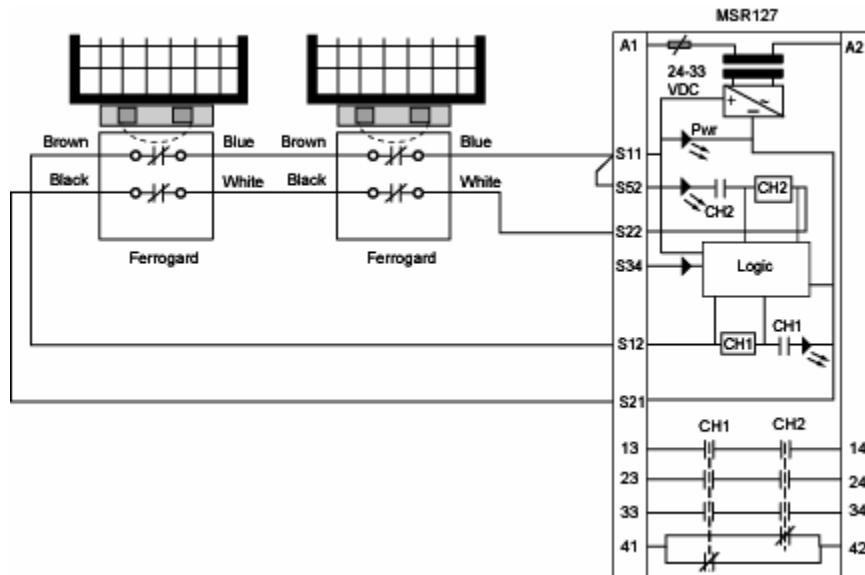

Figure 9. Dual Channel with Multiple Ferrogards
- The input circuit arrangement shown in Figures 9 meets the requirements of EN954-1 Category 3.